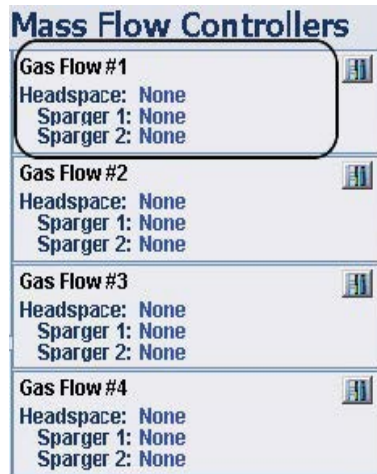

Figure 4.18. Mass Flow Controller box for air supply.
- Click the MFC box for the air supply (Figure 4.18).